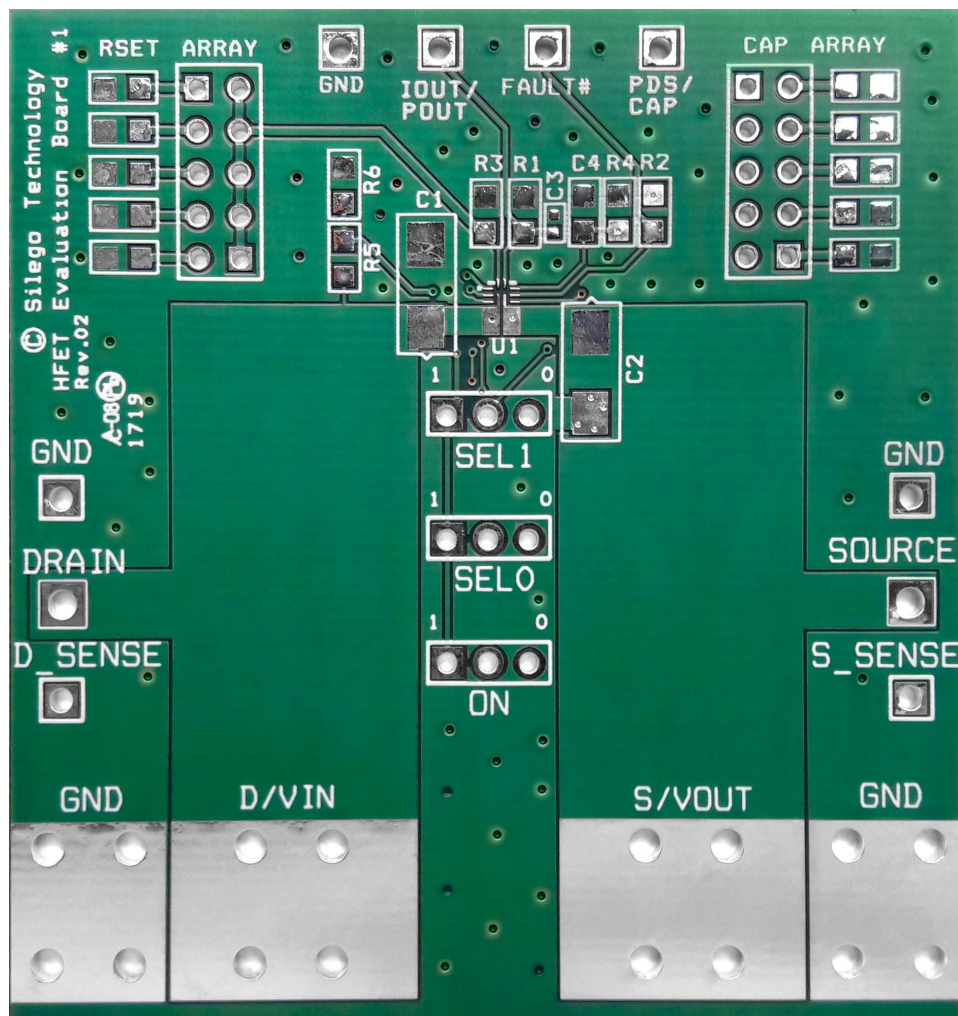

Figure 26. SLG59H1017V Evaluation Board
1. Since the VIN and VOUT pins dissipate most of the heat generated during high-load current operation, it is highly recommended to make power traces as short, direct, and wide as possible. A good practice is to make power traces with absolute minimum widths of 15 mils (0.381 mm) per Ampere. A representative layout, shown in Figure 26, illustrates proper techniques for heat to transfer as efficiently as possible out of the device;
A High Voltage GreenFET Evaluation Board for SLG59H1017V is designed according to the statements above and is illustrated on Figure 26. Please note that evaluation board has D_Sense and S_Sense pads. They cannot carry high currents and dedicated only for RDS_{ON} evaluation.